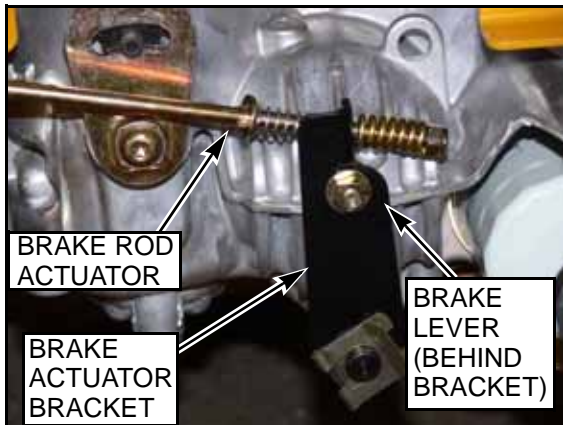
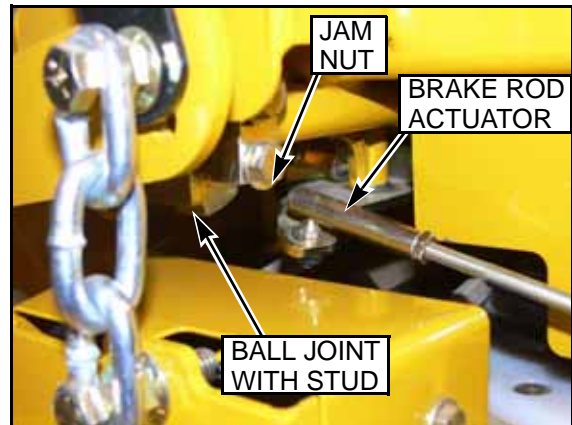

Fig. 9-25
Fig. 9-26
4. Move steering lever to full reverse position. In this position, adjust brake actuator in ball joint with stud to achieve approximately $1/8$ " gap between the locking nut and the brake over-travel spring (Fig. 9-25) If not, then loosen the jam nut locking the "ball joint with stud" (Fig. 9-26) and turn brake rod actuator to achieve the desired dimension. Retighten jam nut, locking the brake rod actuator in place.